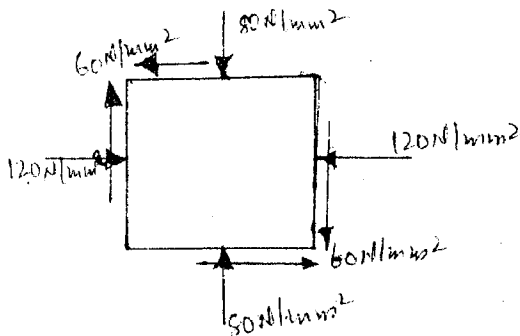

Fig. Q3 (c)
- c. The state of stress in two dimensionally stressed body is as shown in figure Q3 (c). Determine the principal planes, principal stresses, maximum shear stress and their planes. (12 Marks)